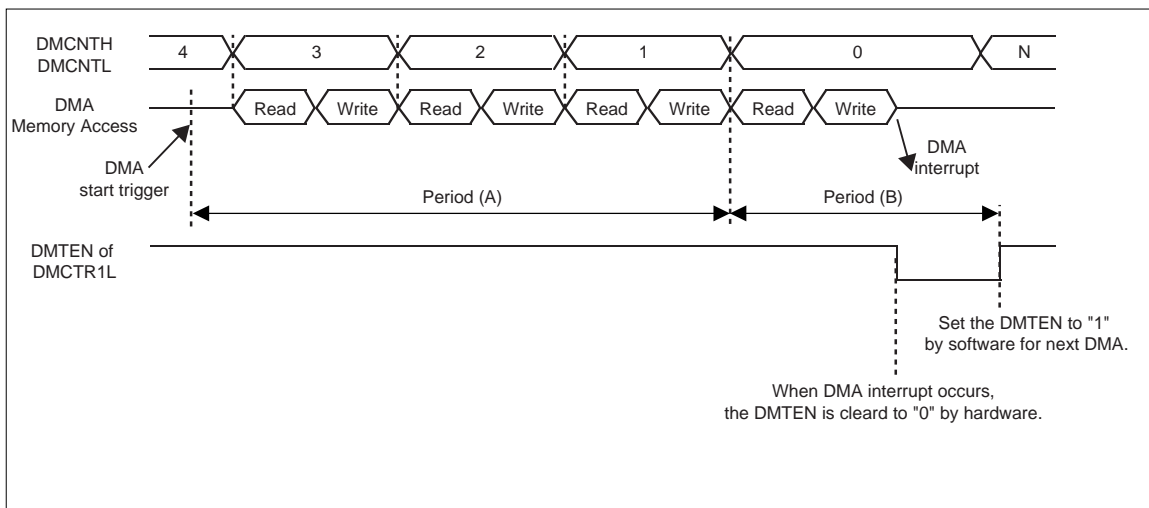

Figure:14.3.2 Example of Burst Transfer
If the DMA start trigger happens during the time after DMA reads the last burst data from Source Address and before the DMCTR1L.DMTEN is set to "1" by software (for example, the period (B) in the Figure 14.3.2), DMA-AddReq interrupt occurs.
If the DMA start trigger happens during the time after the DMA start trigger occurs and before DMA reads the last data) from Source Address (for example, the period (A) in the Figure 14.3.2), DMA-Error interrupt occurs.